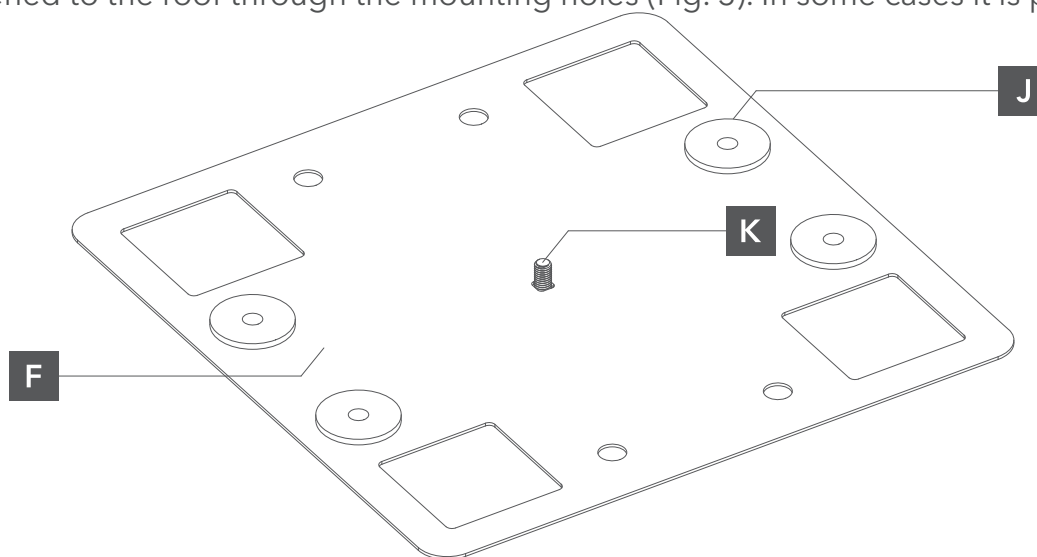

Fig. 3: Fasteners on a membrane-covered roof.
- 2 Place the screws in the fasteners and fix the plate in the designated fasten the plate to the intended place on the diaphragm. The hooks should be attached to the through the fastened to the roof through the mounting holes (Fig. 3). In some cases it is possible to